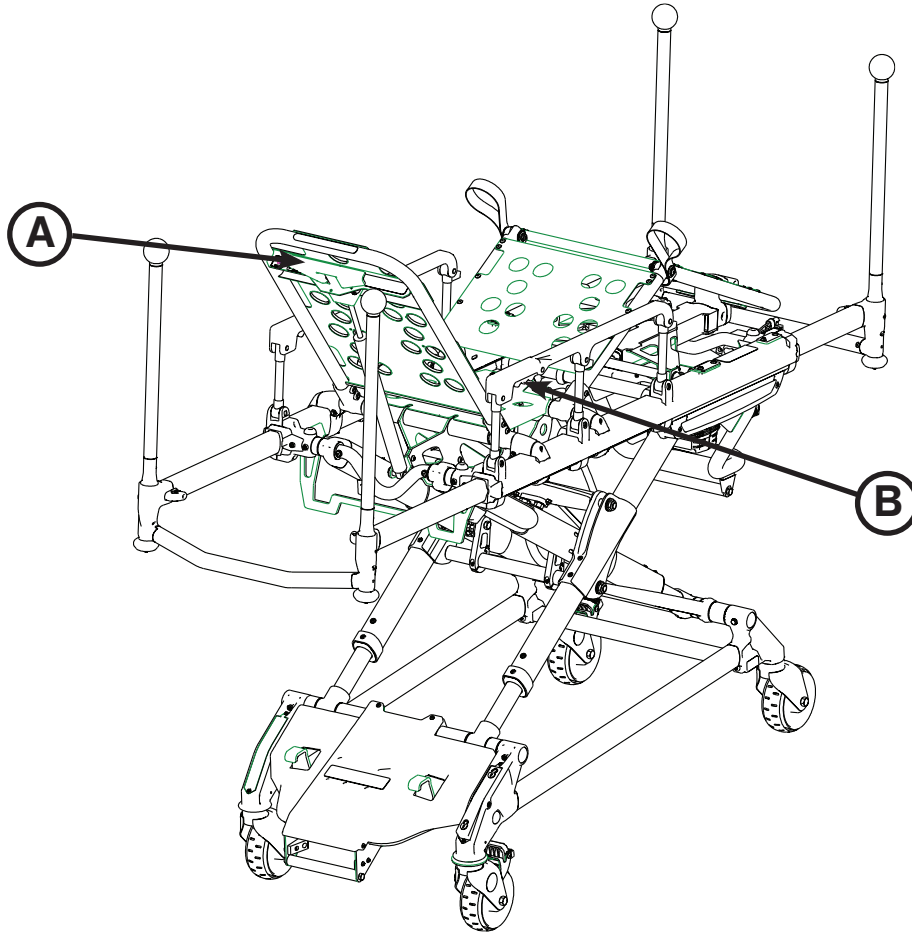

Figure 23: Backrest Elevated and Siderails Raised
To **raise the backrest**, as shown in Figure 23, squeeze handle (A) to move the backrest to the desired height.
To **raise the siderails**, as shown in Figure 23, lift up on the siderail until the latch clicks and the siderail locks into place. When a patient is on the cot, always keep the siderails in the raised position unless the patient is being transferred.